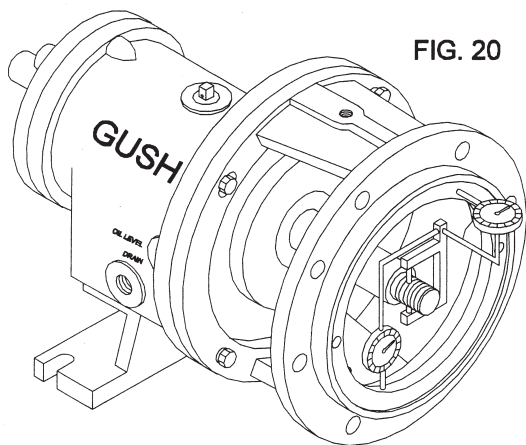

FIG. 20
5. Install stem (18) to bearing frame. Torque bolts, in a criss-cross pattern, to specifications in Table 6.
6. Check stem runout. Rotate shaft one turn, if reading varies more than .005 in. disassemble pump and determine cause. (Fig. 20)